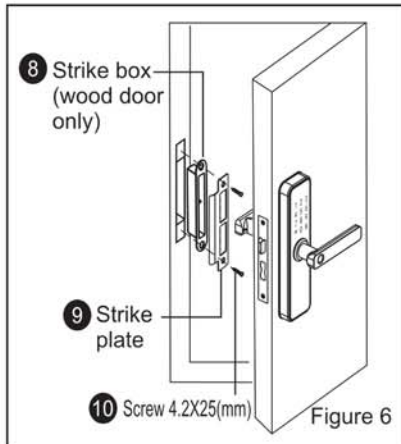

Figure 6
(6) As Figure 6:
- ① Install the strike box and strike plate on the door frame with 2 screws.